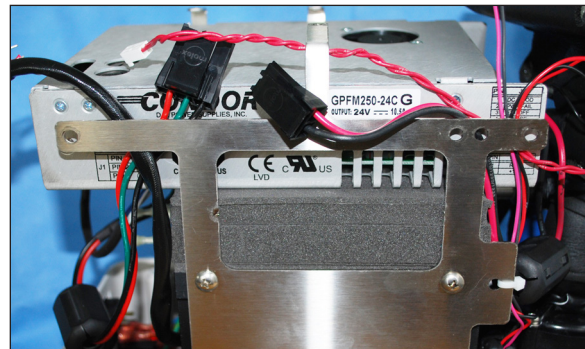

Figure 123 - Step 5 Power supply wires placement
5. Make sure the power supply wires are placed between the power supply and the thermoelectric subassembly bracket (Figure 123).